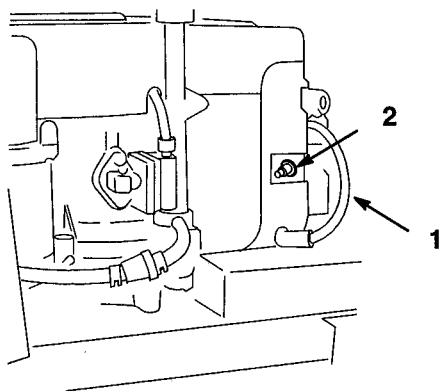

Figure 20
3. Pull the wire(s) off the spark plug(s) (Fig. 20). Now clean around the spark plug(s) to prevent dirt from falling into the engine and potentially causing damage.
3. Push the wire(s) onto the spark plug(s) (Fig. 20).